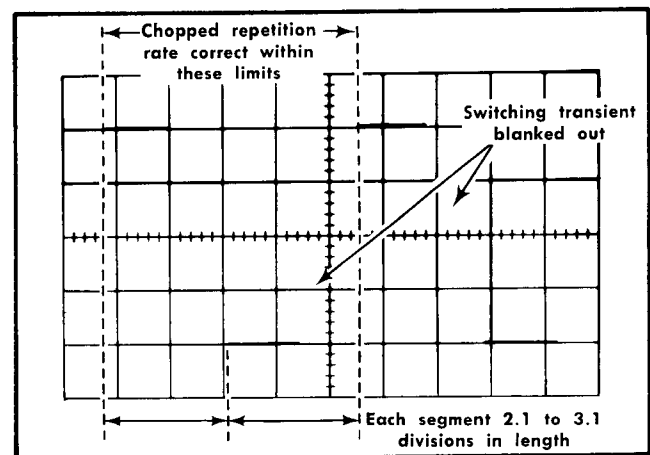

Fig. 6-61. Typical CRT display when checking chopped repetition rate and blanking.
d. CHECK—Each cycle for duration of 4.2 to 6.25 divisions (one megahertz, $\pm 20\%$; see Fig. 6-61).
e. CHECK—Length of each segment between 2.1 and 3.1 divisions (416 to 625 nanoseconds; see Fig. 6-61).
f. CHECK—CRT display for complete blanking of switching transients between chopped segments (see Fig. 6-61).